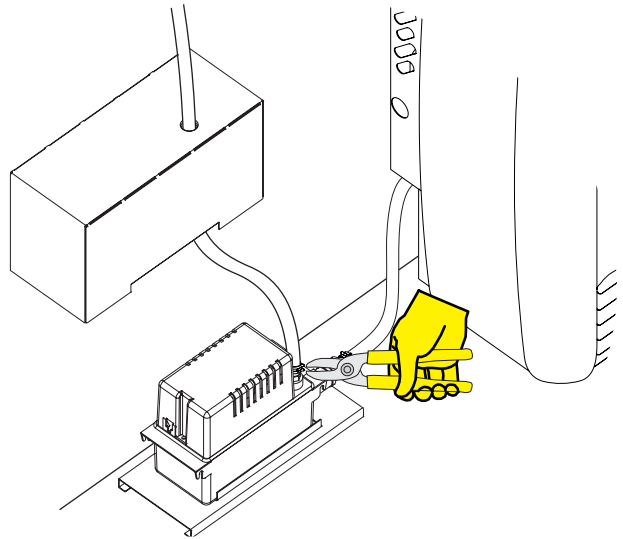

Figure 4
- Slide the drain hose over the barbed fitting on the top of the condensate pump. Use the pliers to slide the hose clamp down the hose over the connector. Make sure the clamp is still on the hose. **See Figure 4.**